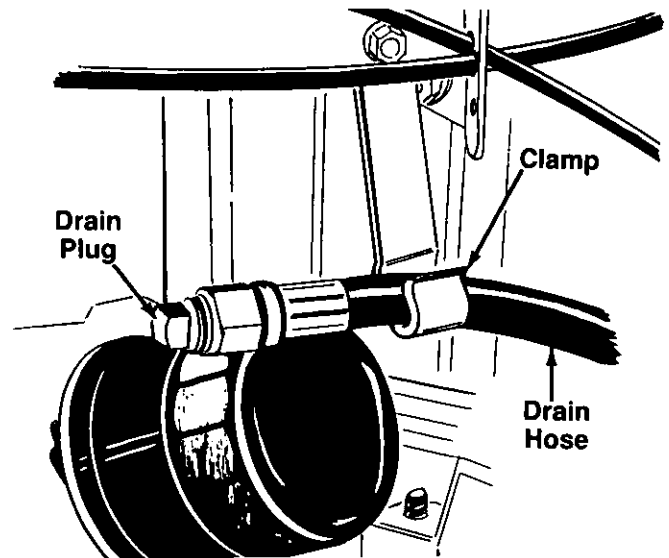

FIGURE 26.
**NOTE:** Your engine is provided with a drain hose for your convenience in draining oil from the crankcase. A clamp secures the drain hose to the side of the engine. See figure 26. To drain the oil, remove the hose from the clamp and remove the drain plug from the end of the hose. Be certain to replace the drain plug and to use the clamp to secure hose to the engine before operating.